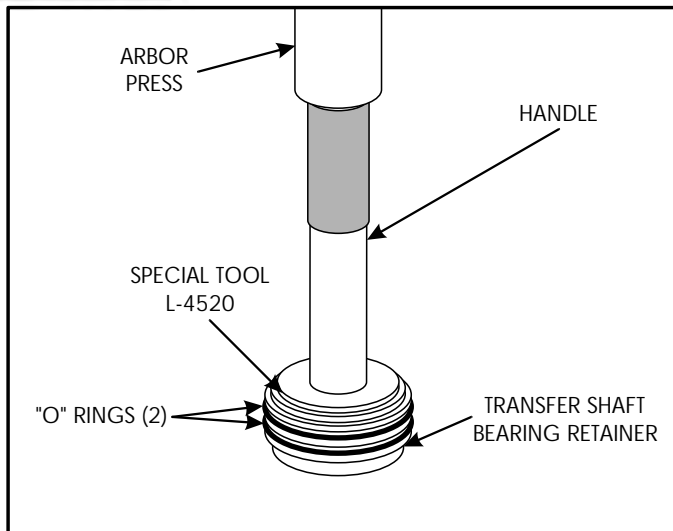

Figure 190
5. Install bearing cup into transfer shaft retainer using special tool L-4520 with arbor press, as shown in Figure 190.
6. Install two new "O" rings on transfer shaft bearing retainer and lubricate with a small amount of Trans-Jel® (See Figure 190).